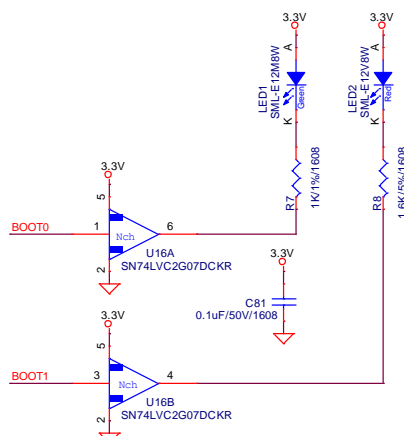

**Figure 2-5 Example of connecting the decoupling capacitor of the power supply terminal of the DC-DC converter**
- Figure 2-5 shows an example of connecting the decoupling capacitor of the power supply terminal of the DC-DC converter. As shown in (a), place the decoupling capacitor in the immediate vicinity of the power supply terminal.